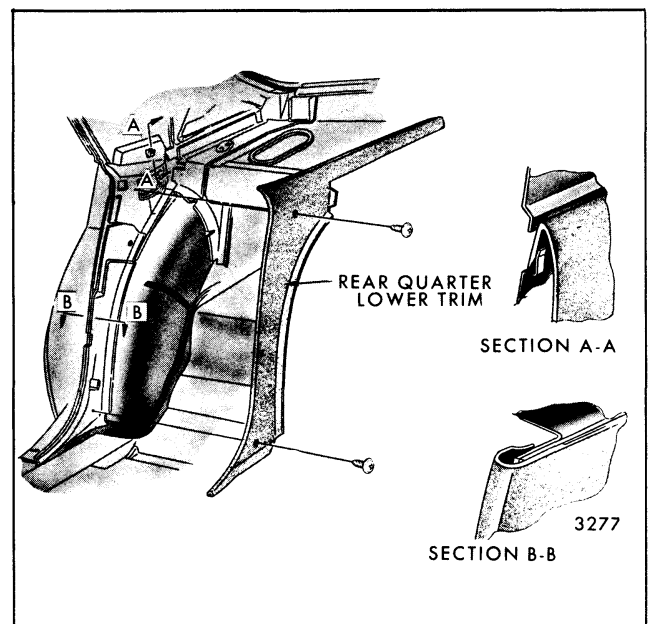

Fig. 6-9-Quarter Trim Assembly Attachment - "A, B and X" Four-Door and "A-80" Styles
2. On "A, B and X" styles, remove attaching screws from trim panel (Fig. 6-9) and remove trim panel.